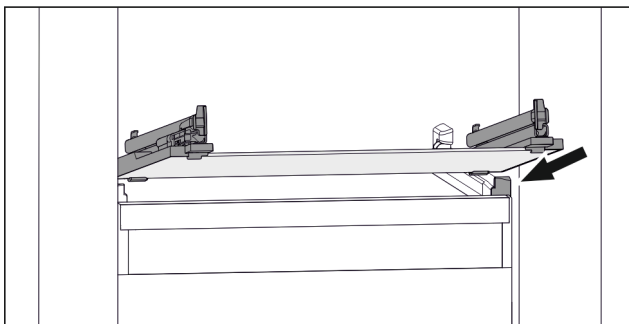

Fig. 73 Example illustration of glass shelf
- ▶ Position glass shelf at an angle behind the stoppers. (see Fig. 73)